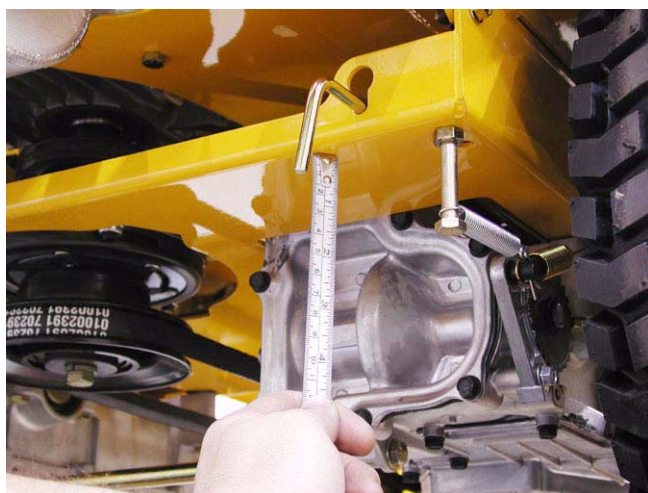

Figure 1.4
- 1.4. Measure the distance from the right rear corner of the transmission mounting bracket to the ground. Repeat on the left side. See Figure 1.4.